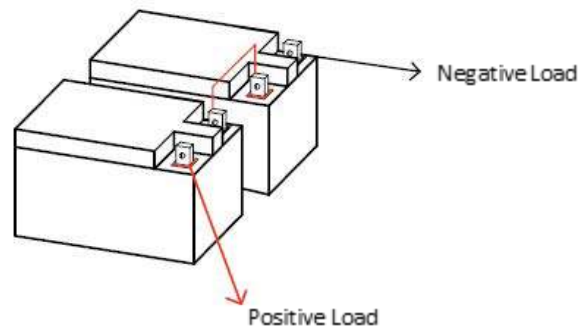

Figure 4: Two BB5024 Batteries Connected in Series to create a 48V 50Ah Battery Bank
When batteries are connected in series, current capacities remain the same, but the system voltage is additive. For example, two BB5024 batteries connected in series form a nominally 48V system (shown in Fig. 4) and should be charged using a bulk and absorption voltage of 57.6V, and a float voltage of 54.4V.
7. Repeat steps 3-6 for additional batteries, but **DO NOT** exceed 48V. An example of a correct series connection can be found below in Fig. 4.